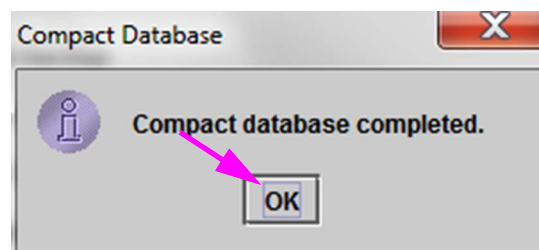

Figure 5-79. Compact Database Completed Dialog Box
3. Click **Proceed** to compact the database. When the database compacting has completed, the Compact Database complete dialog box will appear. See Figure 5-79.